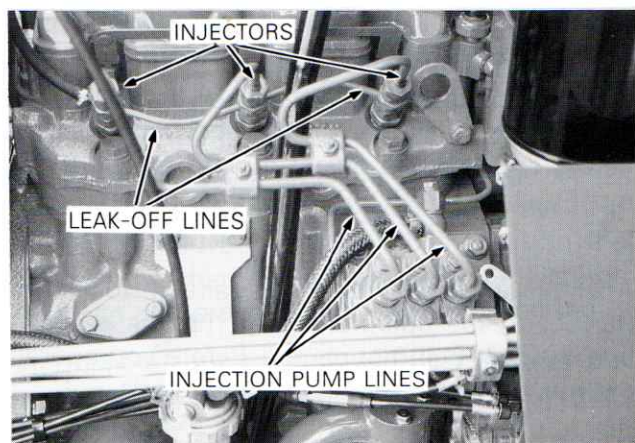

Figure 49 — Fuel Injector Leak-off Lines
1. Clean all loose dirt from around the injectors and lines. Disconnect the leak-off lines from the injectors, Figure 49.